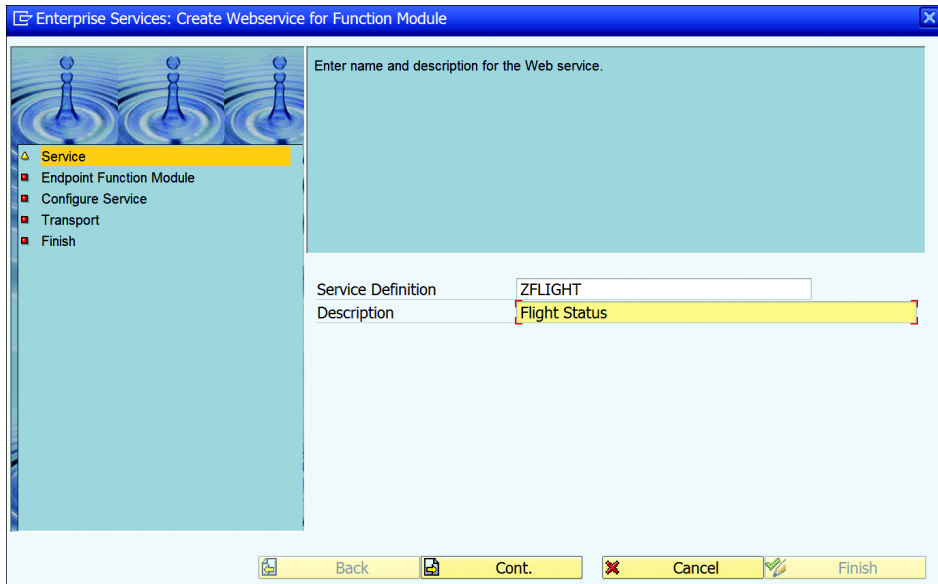

Figure 19.82 Web Service Wizard
2. On the wizard screen, provide the web service name (SERVICE DEFINITION) and DESCRIPTION, then click the CONT. button, as shown in Figure 19.82.